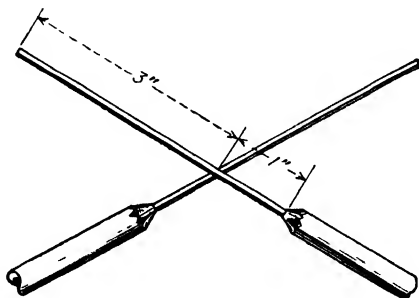

FIG. 63. These wires are ready to splice.
Step 2. Hold the wires together, as shown in Fig. 63.